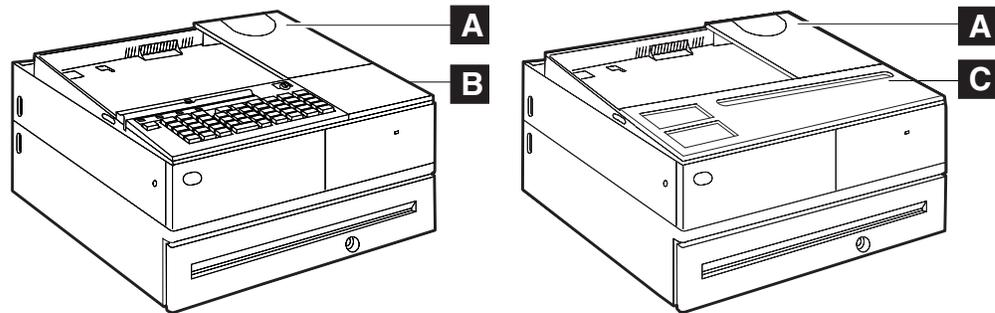

Figure 5. Installed filler panels for displays and keyboards
1. Position the display filler panel (**A** in Figure 5 on page 9) on the system unit. **Do not remove** the knockout section.
2. If you have a short keyboard, place the keyboard filler panel (**B** in Figure 5 on page 9) beside the keyboard. Hook the foot of the keyboard filler panel into the hole, and snap the front of the filler panel into place.
3. If you are using a touch screen and therefore are not using a keyboard, place the keyboard replacement filler panel (**C** in Figure 5 on page 9) beside the keyboard. Hook the foot of the keyboard replacement filler panel into the hole, and snap the front of the filler panel into place.